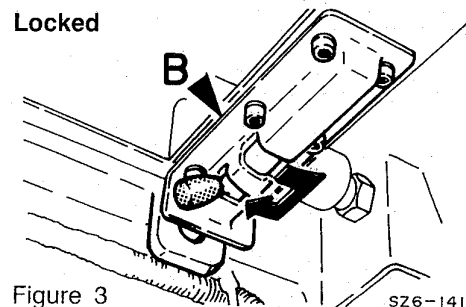

Figure 3 SZ6-141A
3. Lock the window securely into the roof using lock "B". (Refer to Figure 3.)